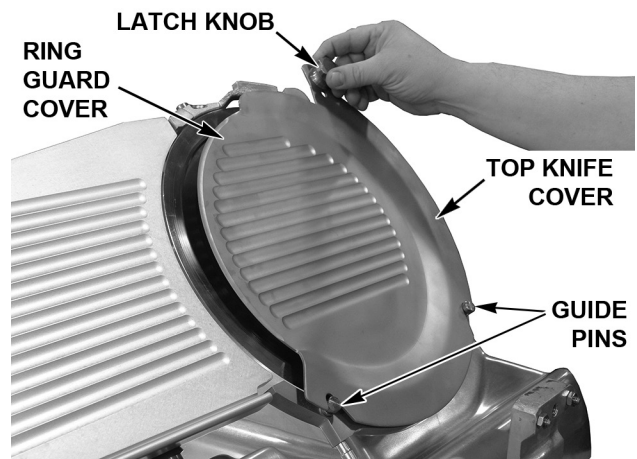

Fig. 13
- Position the Top Knife Cover (Fig. 13) on the lower two Guide Pins and lower the Latch Knob until the magnet secures the Top Knife Cover in place.